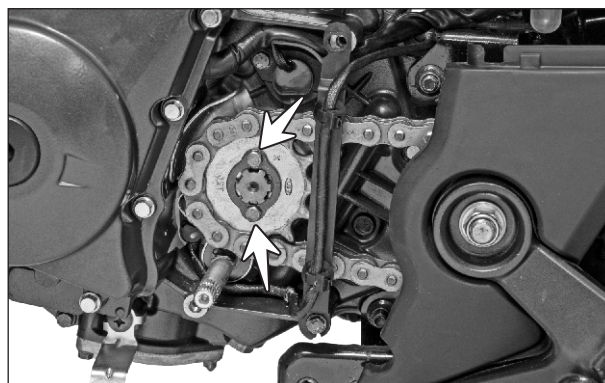

Fig. 3.103
- Remove hexagonal screw (M5x10 - 2 nos.) from the lock plate engine sprocket mounting. (Fig. 3.103)